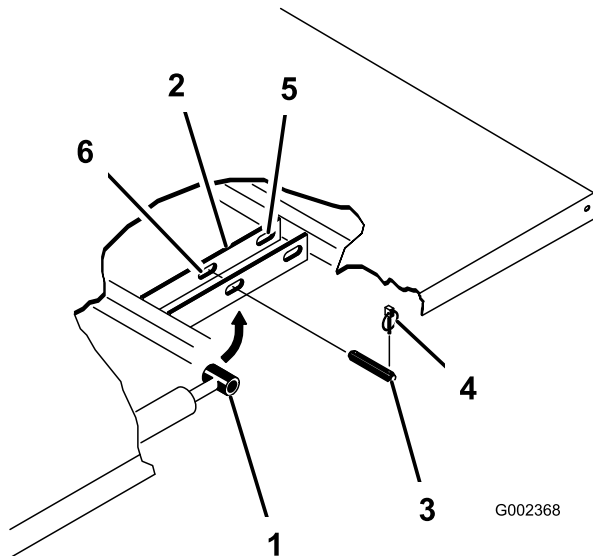

Figure 34
2. Remove the lynch pins from the outer ends of the cylinder rod clevis pins (Figure 34).